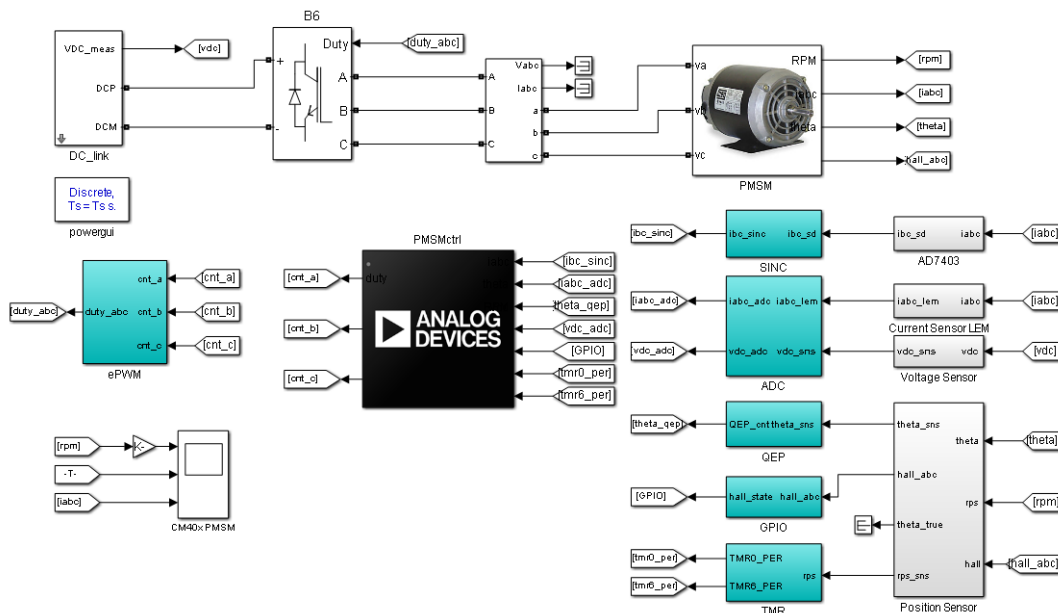

Figure 11 Simulink design.
1. Open `$MC_DIR$\SW\Algorithm\CM40xPMSM\ CM40xPMSM.slx` and go to the top level view as shown in Figure 11.